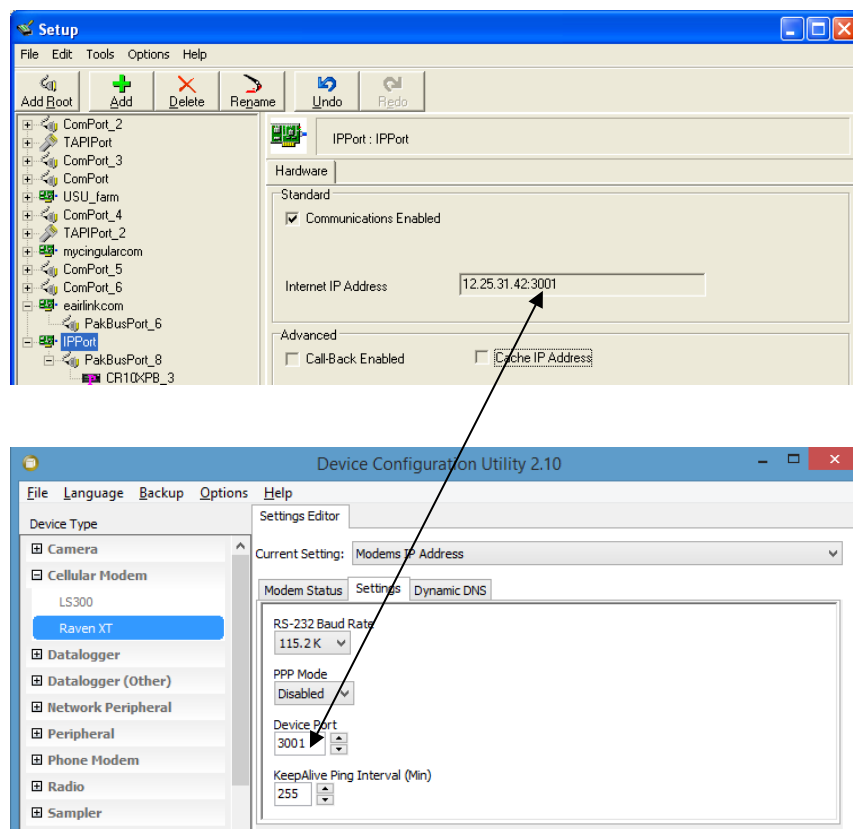

FIGURE 7-1. Device Port configuration
- a. Make sure the port number at the end of the IP address matches the port number of the Raven (e.g., 3001, see FIGURE 7-1).